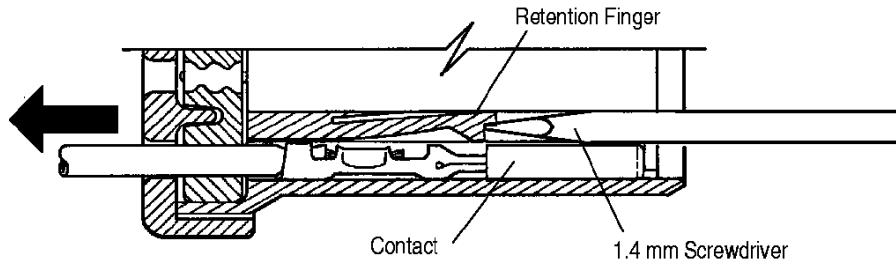

Figure 7
4. Insert a 1.4 mm screwdriver into the contact cavity and deflect the retention finger holding the contact. Gently pull the wire until the contact is free from the housing. Repeat this procedure for the remaining number of contacts to be removed as shown in Figure 7.